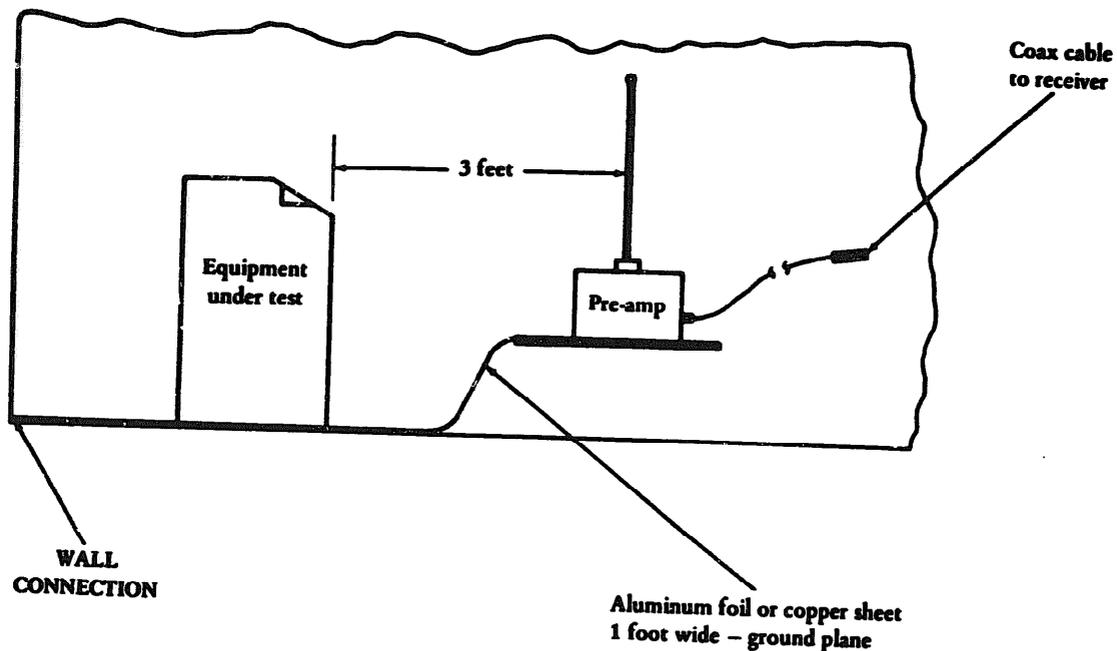
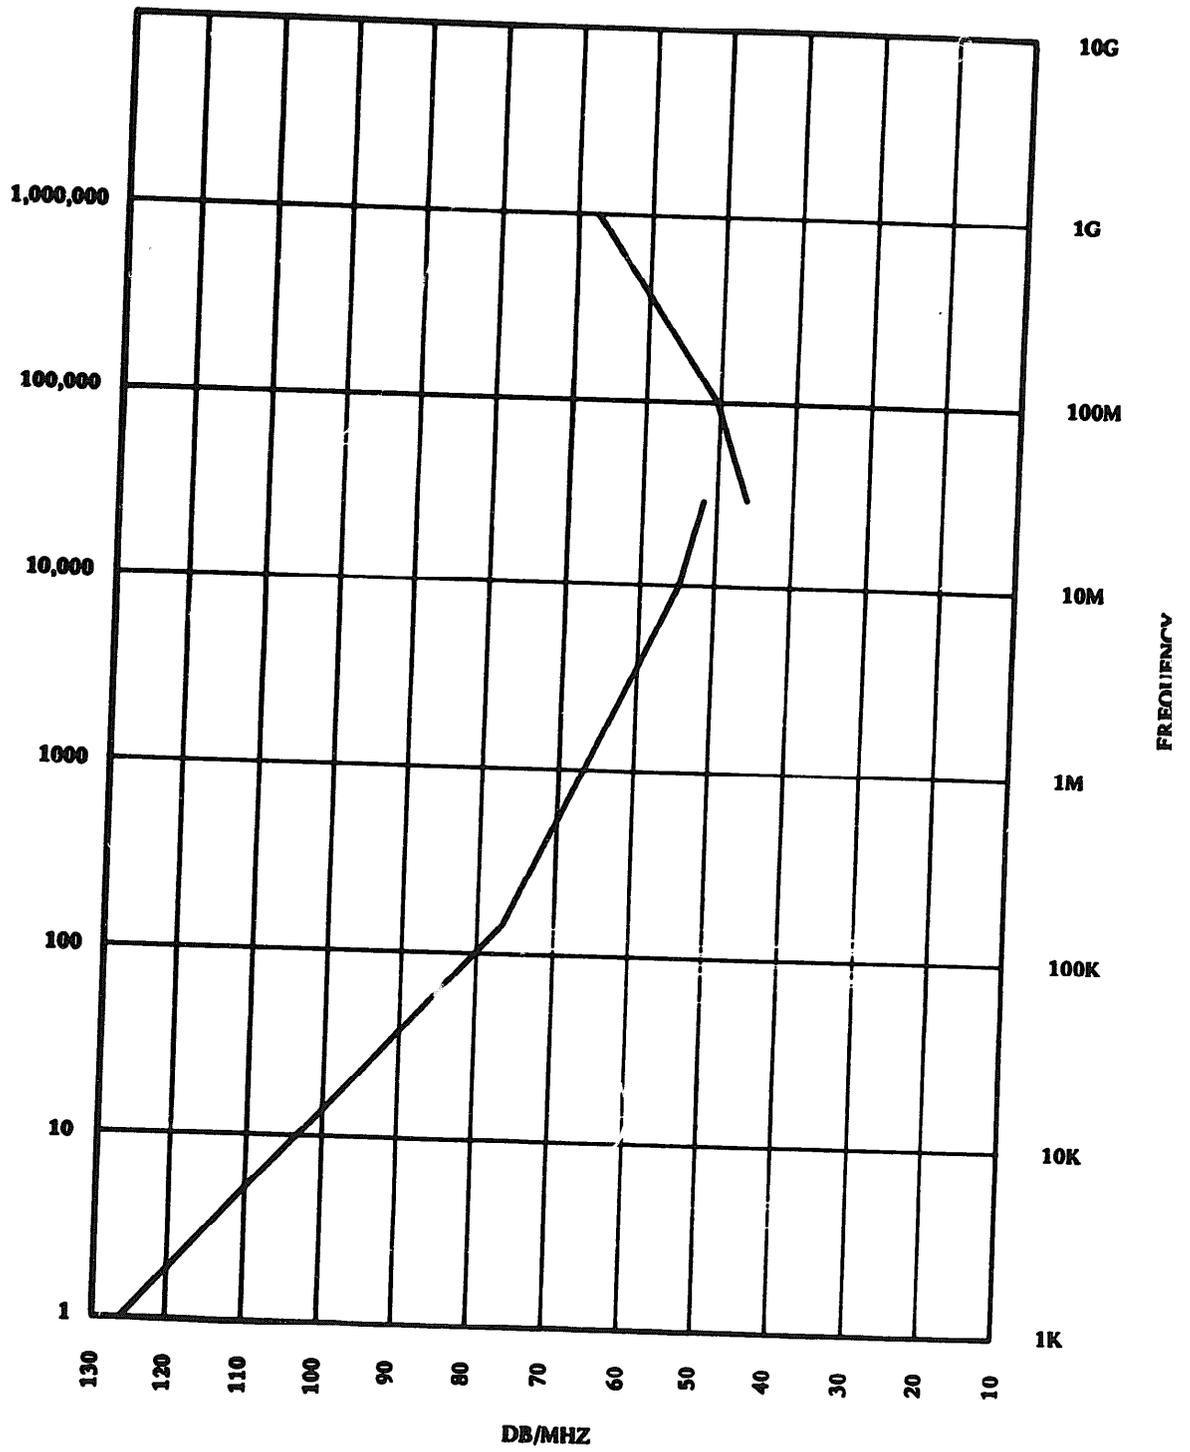

Figure 8- Vertical Rod Antenna Test Setup
Figure 9 - Electrical Field Limits
4.06 **Place the cabinets in a row facing the antenna approximately 1 foot apart. Center the antenna 3 feet in front of the cabinet group. When making test with a vertical rod antenna setup, mount the cabinets and antenna on a common ground plane (aluminum foil or copper sheet 1 foot wide and appropriate length), connected to the shielded room walls (Figure 8). Electrical field limits are shown in Figure 9.**